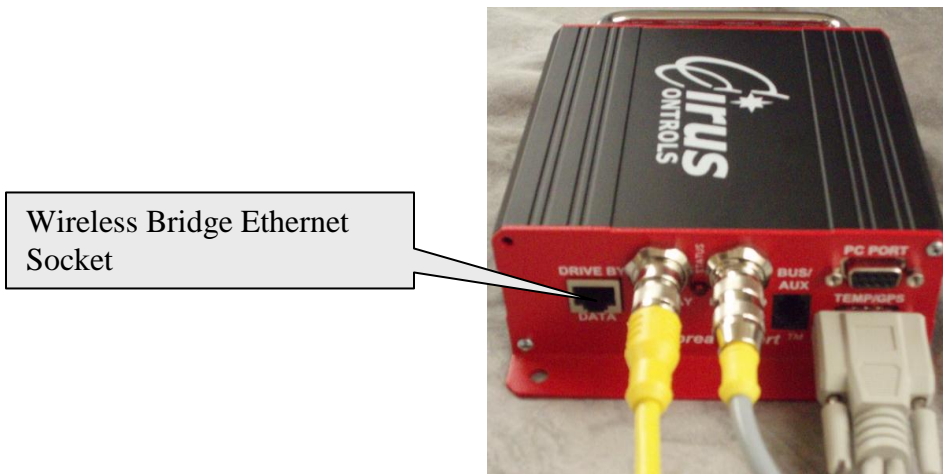

Figure 2.2
- 6.) Insert the RJ-45 plug on the bridge into the **Drive By Data** port (figure 2.2). Make sure the cable latches/clicks to prevent intermittent connections.